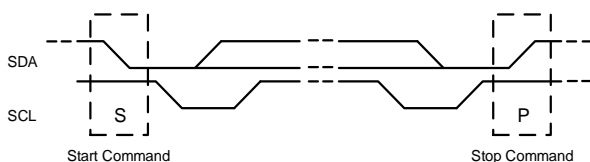

Figure 7: Start and Stop Commands
The start and stop commands are signaled by the master device, which signifies the beginning and the end of the PMBus interface transfer. The start (S) command is defined as the SDA signal transitioning from high to low while the SCL line is high. The stop (P) command is defined as the SDA signal transitioning from low to high while the SCL is high (see Figure 7).